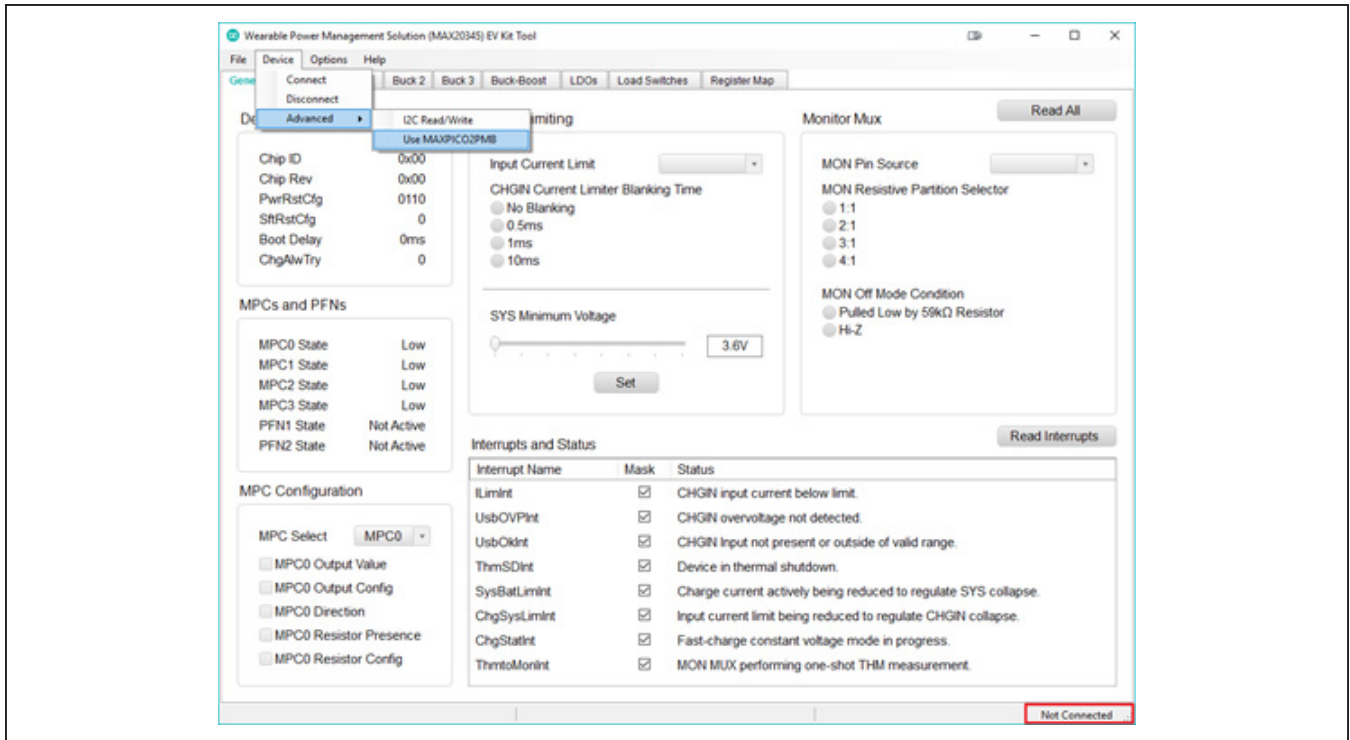

Figure 2. Configuring the EV Kit Tool with MAXPICO2PMB Adapter Board
- 7) On the computer, open the MAX20345 Evaluation Kit Tool GUI. The status bar on the bottom of the EV Kit Tool software shows “Not Connected” as seen in Figure 2.
- 8) In order to use the MAXPICO2PMB with the MAX20345 EV Kit Tool, click on Device on the GUI toolbar, choose the **Advance** option, and finally select Use **MAXPICO2PMB** (Figure 2).